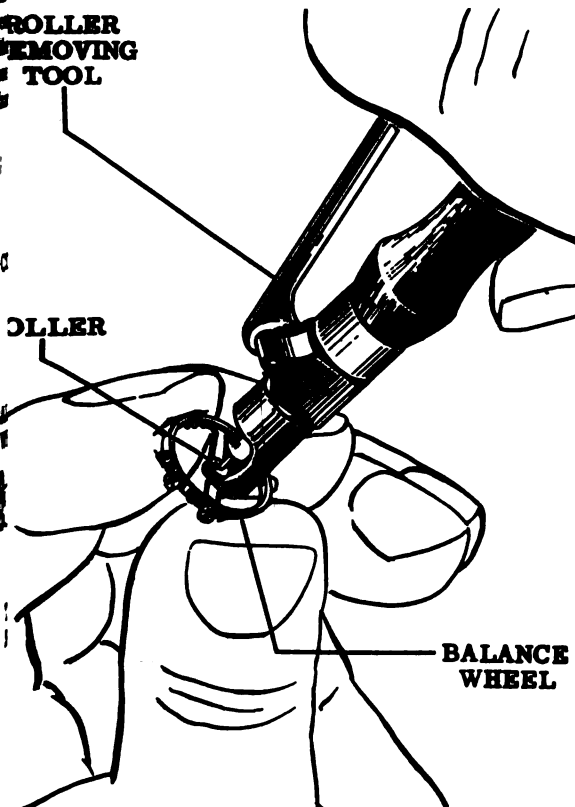

Figure 80
4. Check the jewel pin on the balance roller for cracks, chips, breakage, tightness and proper alignment. Check the roller for tightness on the balance staff. If the roller is loose, remove it as shown in Fig. 80 with a regular commercial roller removing tool and replace it. It is not recommended that the roller hole be closed and reamed out for a tight fit since there is extremely little tolerance for eccentricity.